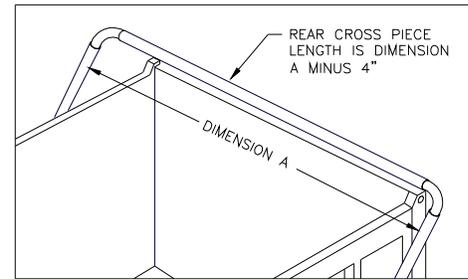

FIGURE 4
8. Measure the distance between the upper arms as shown in **Figure 4**. Cut the rear cross piece 4" shorter than the distance measured.